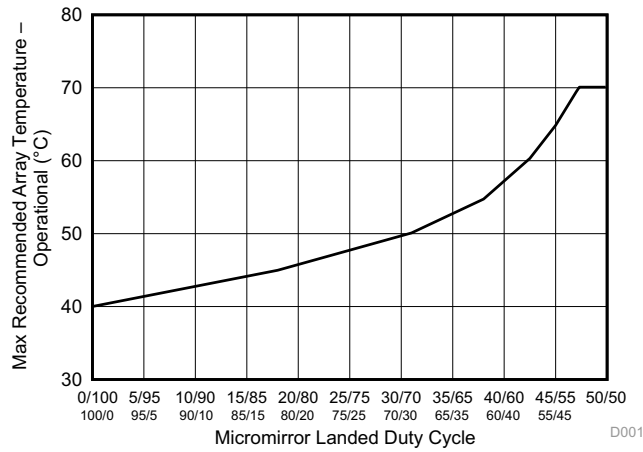

Figure 1. Max Recommended Array Temperature – Derating Curve
- (13) Per Figure 1, the maximum operational array temperature should be derated based on the micromirror landed duty cycle that the DMD experiences in the end application. Refer to *Micromirror Landed-On/Landed-Off Duty Cycle* for a definition of micromirror landed duty cycle.
- (14) Long-term is defined as the usable life of the device
- (15) Short-term is the total cumulative time over the useful life of the device.